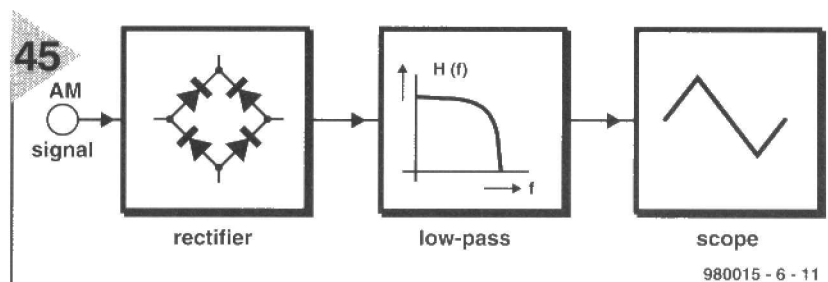

Figure 45. Principle of envelope demodulation.
Amplitude modulated (AM) signals are most conveniently demodulated when their envelope is constructed, which is done by rectification of the signal and its subsequent filtering in a low-pass section—see Figure 45. For the demodulation of the AM signal introduced in Part 5, we use experiment file XDEMOD3.SPP. The result is shown in Figure 46. The low-pass filtering is necessary to suppress any unwanted spectral components of the signal.